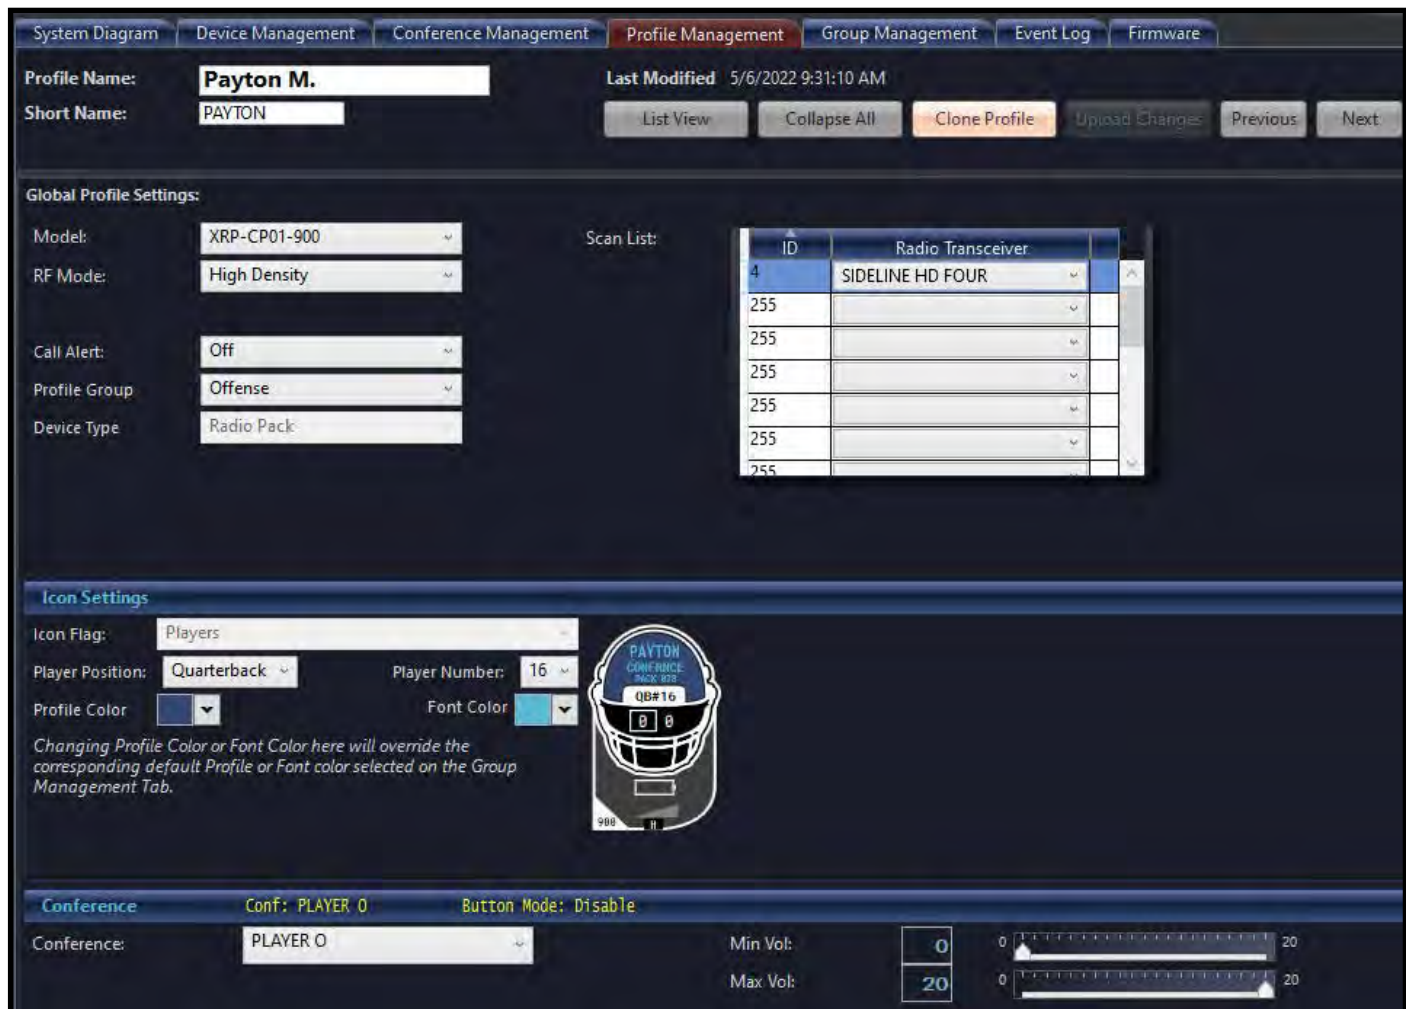

Figure 142: X-System Player Profile Example
3. Customize the Player Position and Number in the Icon Settings. See Figure 142 for an example of an X-System Player Profile.